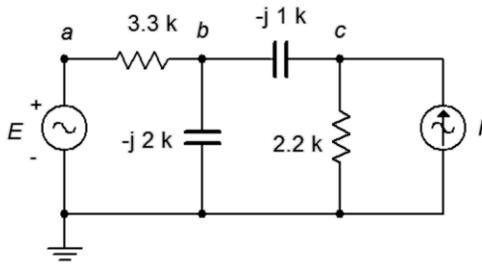

Figure 6.22
43. Use nodal analysis to find the current through the  $3.3\text{ k}\Omega$  resistor in the circuit of Figure 6.22.
44. Given the circuit in Figure 6.22, write the node equations and determine  $v_c$ .  $E = 18\angle 0^\circ$ ,